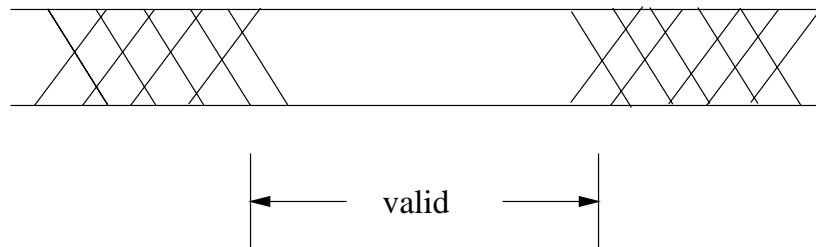

Figure 5: A Data Bus
7. Data bus contents should be abbreviated as shown in Figure 5, unless one of the data bits must be drawn separately for one of the reasons above.